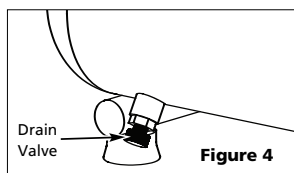

Figure 4
2. With compressor shut off and pressure released: Drain moisture from tank by opening drain valve underneath tank (See Figure 4).